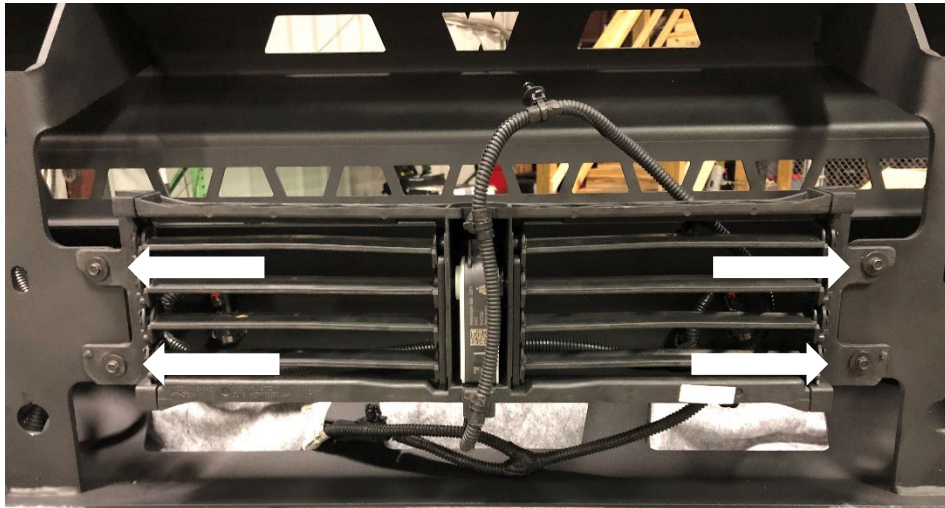

Figure 25
23. Install the lower louvers onto the Warn bumper using the OEM bolts and clip nuts removed during steps 14-15 with a 7mm socket wrench. (Figure 25)